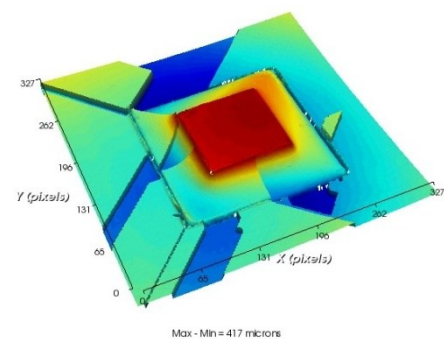

Figure 5.3 Discontinuity Errors in Displacement Data
- Discontinuities exist in the calculated displacement data. (Figure 5.3)
displacement surface (**Figure 5.3**). For shadow moiré, abrupt implies adjacent pixels with a height difference greater than half the fringe value, e.g. greater than 0.005" (0.127 mm) for a 100 line per inch grating or 0.0017" (0.043 mm) for a 300 lpi grating.